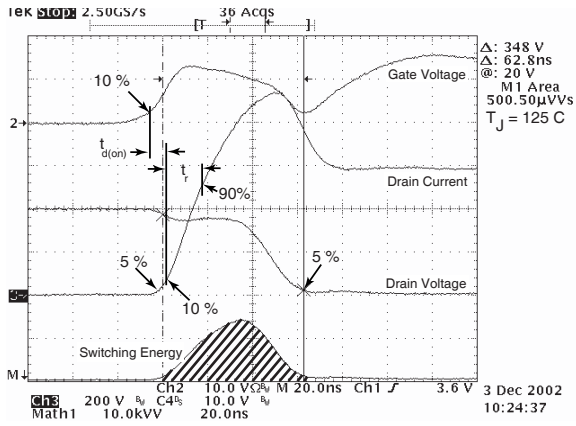

Figure 18, Turn-on Switching Waveforms and Definitions
- ① Repetitive Rating: Pulse width limited by maximum junction temperature
- ② Pulse Test: Pulse width < 380 μs , Duty Cycle < 2%
- ③ See MIL-STD-750 Method 3471
- ④ Starting $T_j = +25^\circ C$, $L = 3.09mH$, $R_G = 25\Omega$, Peak $I_L = 29A$
- ⑤ dv/dt numbers reflect the limitations of the test circuit rather than the device itself. $I_S \leq -I_D 29A$ $di/dt \leq 700A/\mu s$ $V_R \leq V_{DSS}$ $T_J \leq 150^\circ C$
- ⑥ E_{on} includes diode reverse recovery. See figures 18, 20.